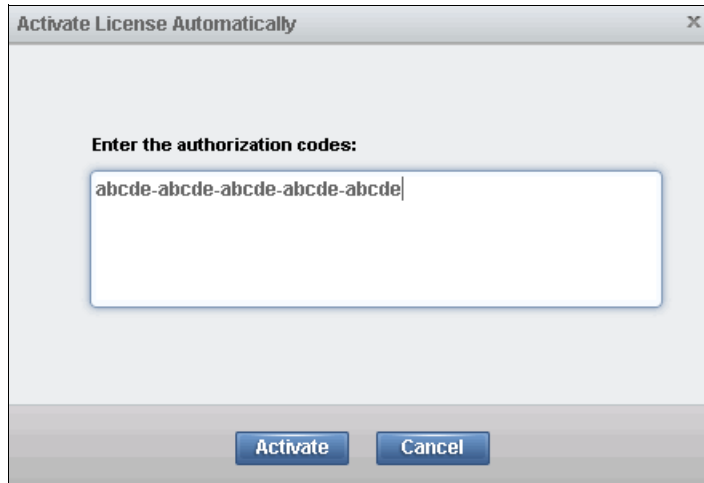

Figure 9-6 Activating license automatically
3. Choose **Activate License Automatically** to activate the Easy Tier function automatically and click **Activate** as shown in Figure 9-6.